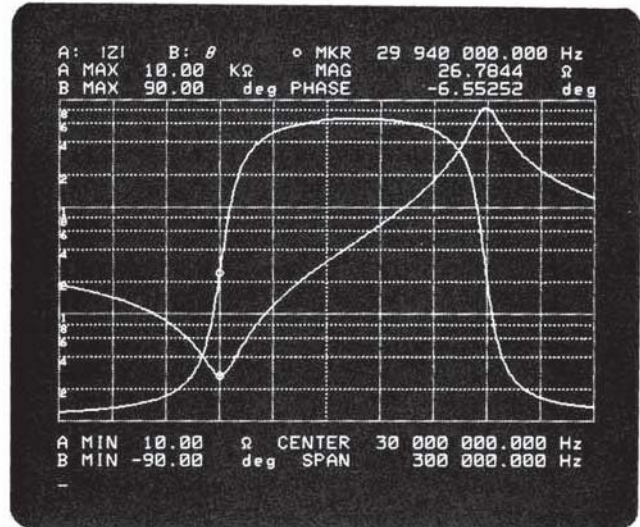

Figure 16. Impedance-Frequency Characteristics of a Ceramic Resonator
MKR → MIN(A) cause the values $f_r = 29.94\text{MHz}$ and $Z_r = 26.78\Omega$ to be displayed. (See Figure 16.) In addition, pressing the MKR → MAX(A) key causes the values $f_a = 30.09\text{MHz}$ and $Z_a = 8.508\text{K}\Omega$ to be displayed. The electro mechanical coupling coefficient can be found using the following equation.